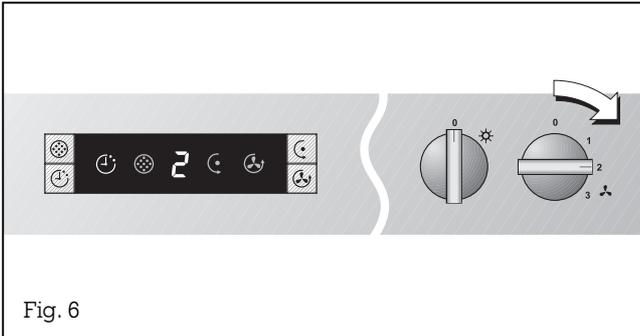

Fig. 6
- Turn the "Ventilation level" control knob to the ventilation level you require (Fig. 6).